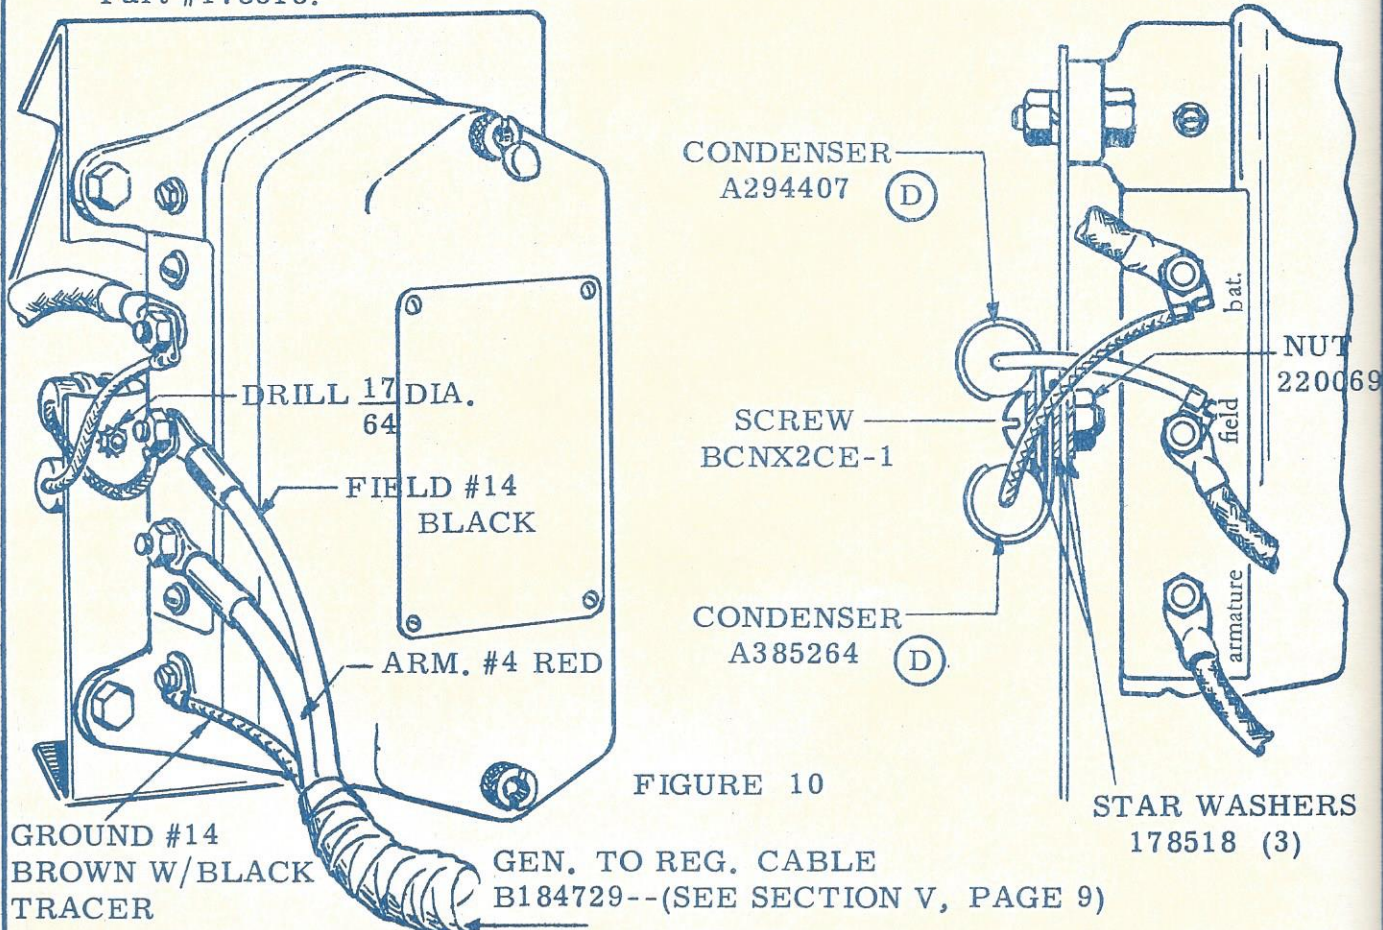

FIGURE 10
2. Install lead from condenser Part #A385264 onto battery terminal of regulator. Also install lead from condenser Part #A294407 onto field terminal of regulator; see Figure 10.
3. Drill 17/64 dia. hole shown below in regulator bracket. Attach both condensers together to the regulator bracket as per figure 10, using one screw Part #BCNX2CE-1, one nut Part #220069 and three star washers Part #178518.